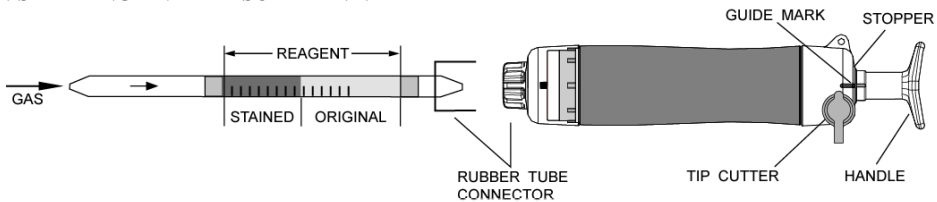

Fig.1
- ① Break both ends of detector tube.
- ② Insert the detector tube into aspirating pump securely as shown in Fig.1 (Arrow mark shall point to the pump.)
- ③ Align the guide marks on the shaft and stopper of the aspirating pump.
- ④ Pull the pump handle at full stroke until it locks and wait for 1 minute or until the completion of sampling is confirmed with the flow indicator of the pump (See descriptions about the flow indicator in the instructions of the pump).
- ⑤ On completion of sampling, read the scale at the maximum point of the stained layer.
- ⑥ When the concentrations are below the scale range, multiple pump strokes can be used to determine these lower concentrations.